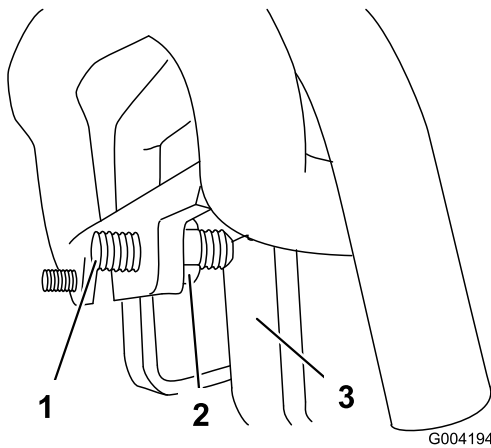

Figure 54
- If the traction unit veers to the **left**, loosen the **right** jam nut and adjust the tracking set screw on the front of the traction control (Figure 54).
- If the traction unit veers to the **right**, loosen the **left** jam nut and adjust the tracking set screw on the front of the traction control (Figure 54).